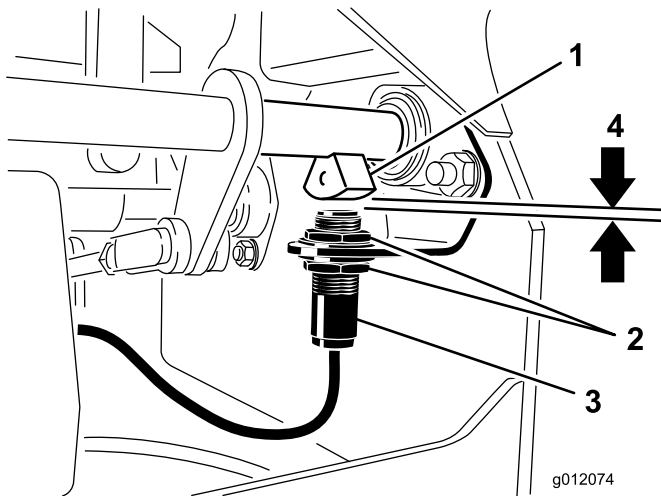

Figure 67
4. Move the switch up or down on the bracket until the distance between the brake shaft sensor and the switch surface is 5/32 inch (3.9 mm) (Figure 67).